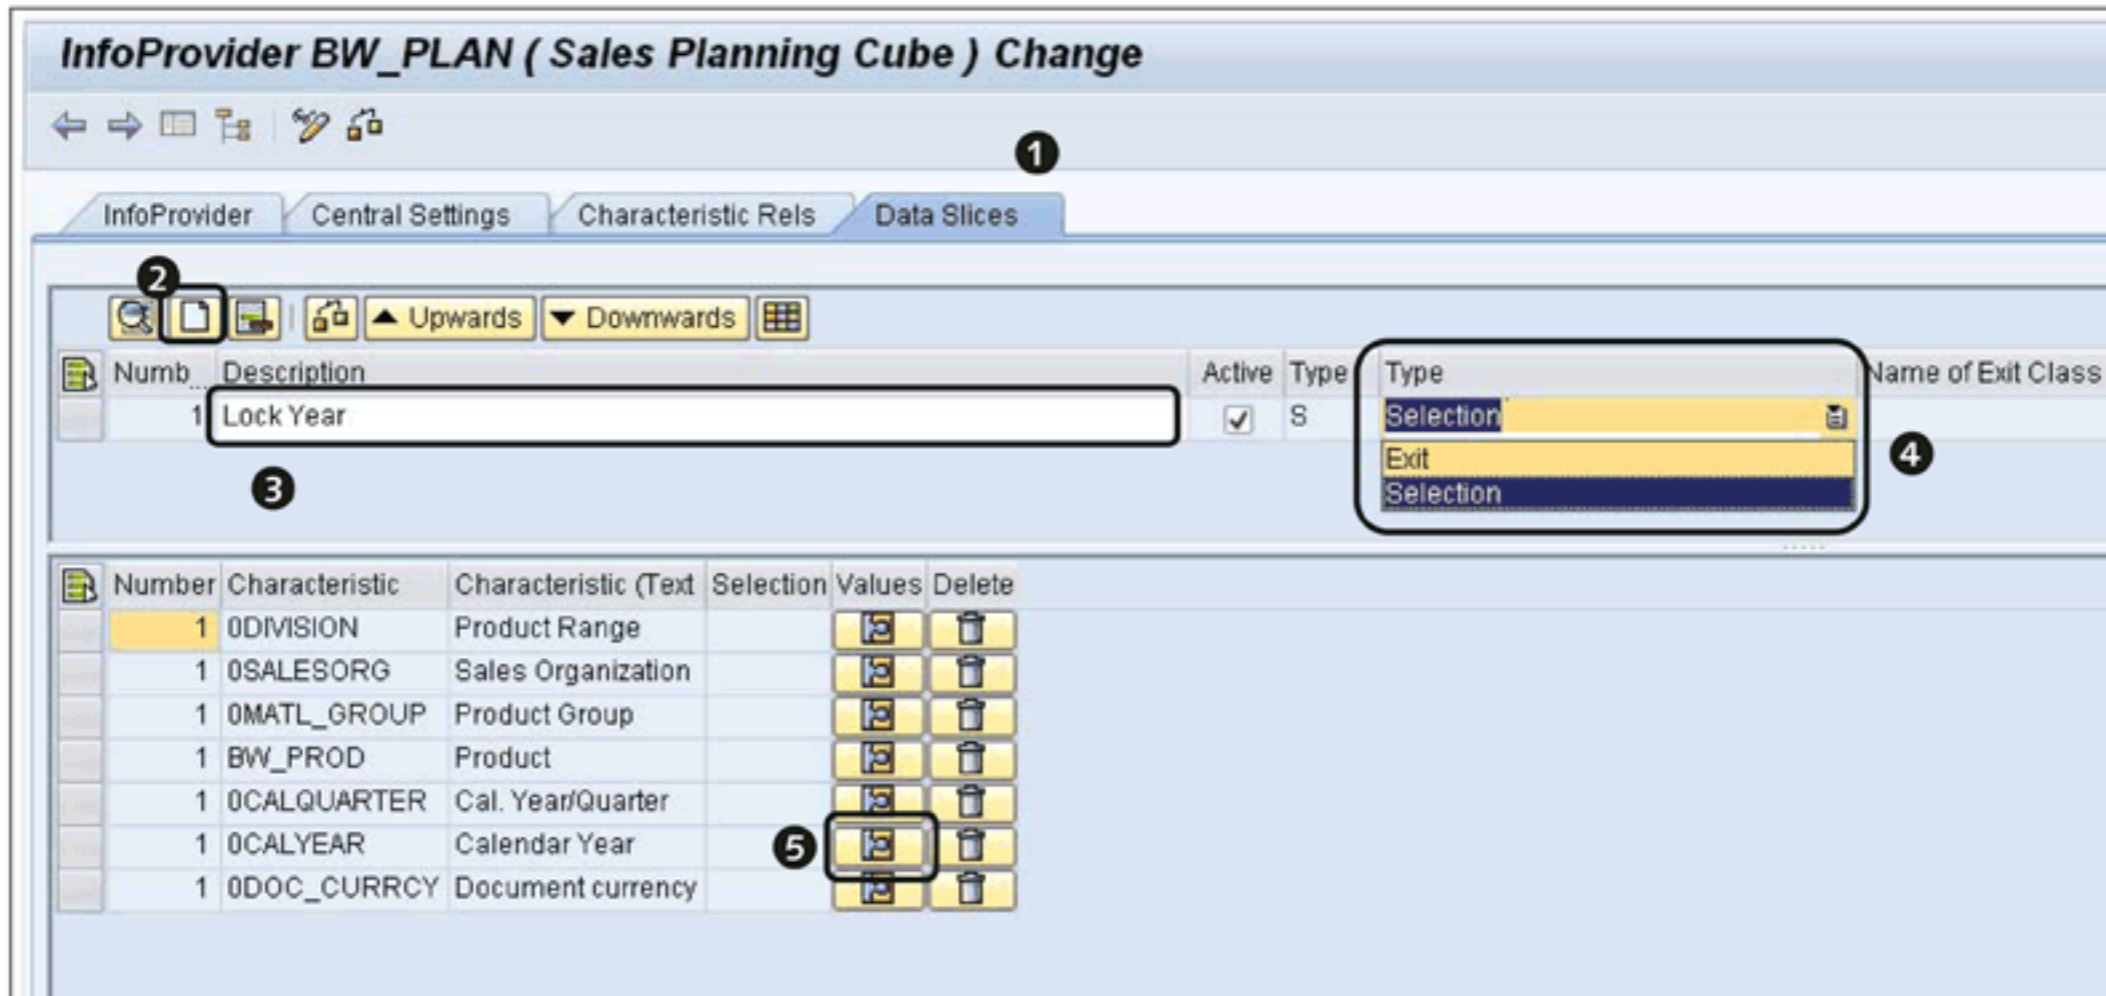
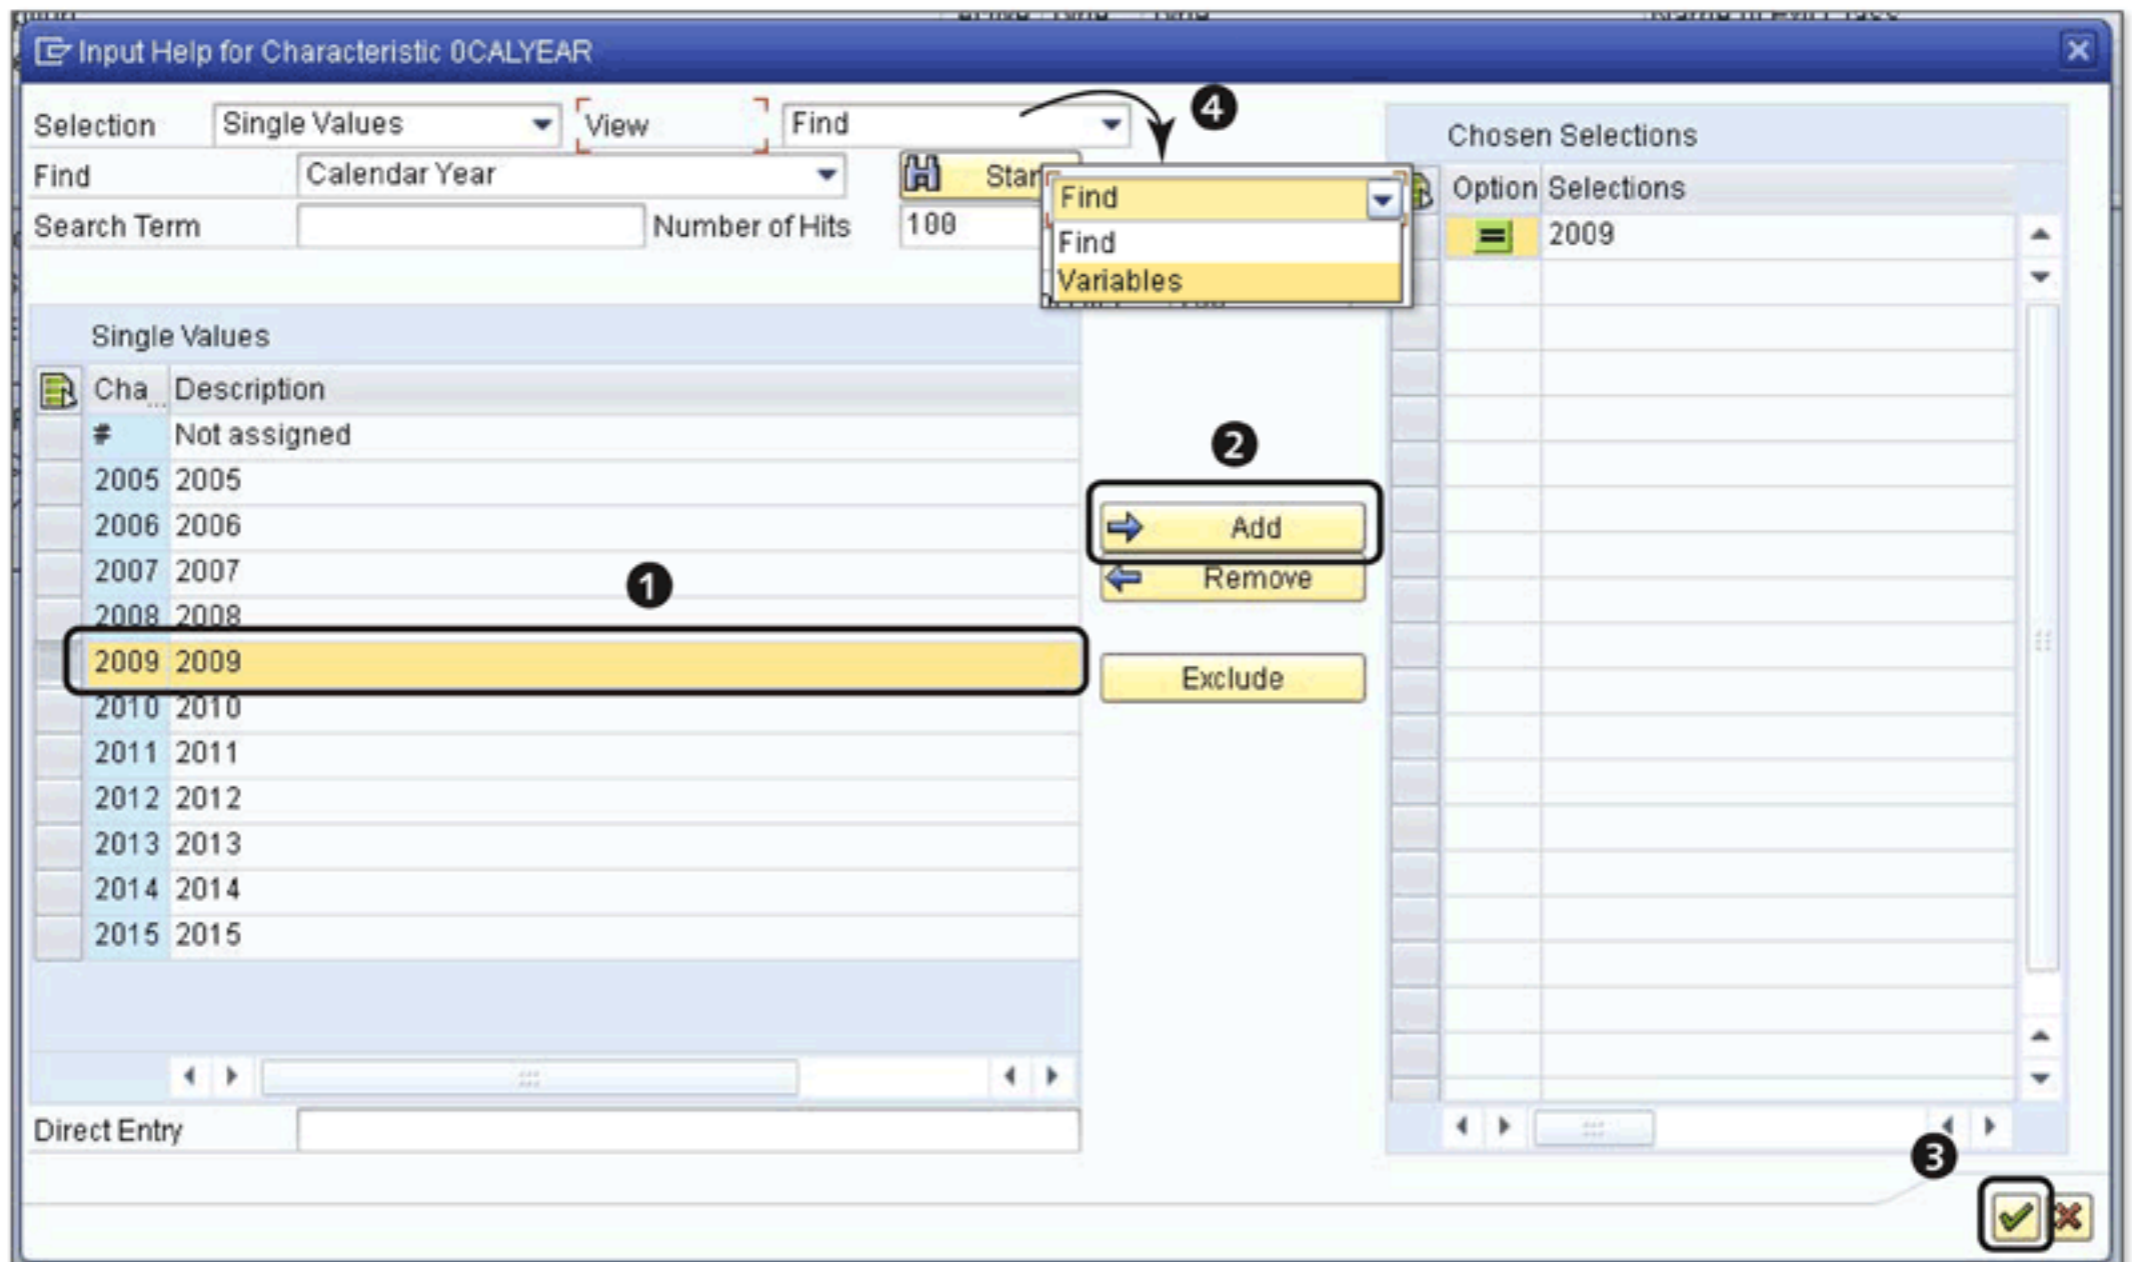

Figure 12.18 Creating Data Slices
Figure 12.19 Define Selections for Data Slice
Data slices are defined under the INFOPROVIDER section of Transaction RSPLAN. Click on the DATA SLICES tab page of the selected InfoProvider, as shown in ❶ of Figure 12.18.
Click on the CREATE button to create a new data slice (❷ of Figure 12.18). Maintain the DESCRIPTION of the data slice, as shown in ❸ of Figure 12.18.
In the TYPE dropdown list, select SELECTION (❹ of Figure 12.18). This option allows you to maintain selections for different characteristic values that can be locked. If you want to define a custom and complicated logic for locking the plan data, you can define the data slice based on ABAP exits.
In the lower part of the screen, you can see a list of all characteristics included in the cube. Here is where you specify the selections that need to be locked. For example, if you want to protect the data for CALENDAR YEAR = 2009, lock this selection. To do this, click on INPUT HELP for the CALENDAR YEAR characteristic (❺ of Figure 12.18). This opens the INPUT HELP pop-up window as shown in Figure 12.19.
From the INPUT HELP screen, select the value 2009 (❶ of Figure 12.19), and click on ADD (❷) to include it in the chosen selections. Click on OK (❸).
This is an example of defining a data slice with fixed selection, but you can also use BEx variables to define a data slice. This option can be selected by selecting VARIABLES from the VIEW dropdown (4 of Figure 12.19).